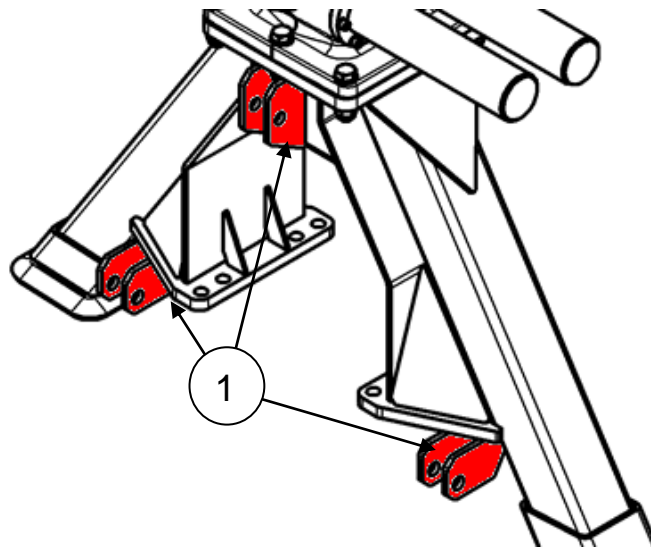

Figure 6.1 3-point linkage junctions on Palms 695 A-type support legs (B3)
Before mounting crane to the 3-point linkage (pos.1, fig. 6.1) make sure that: